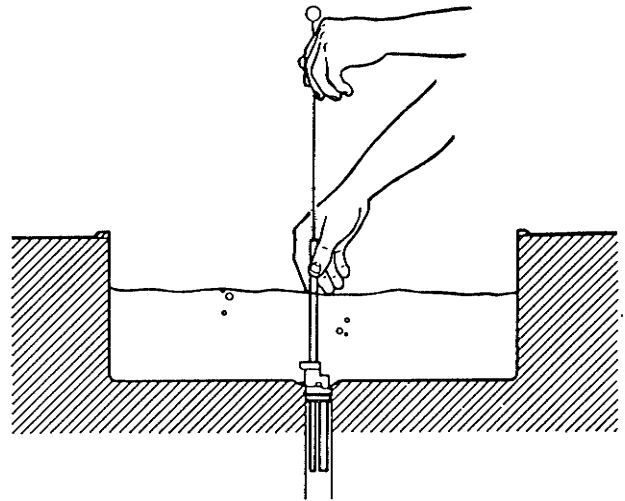

Figure 31. Sanitizing Mix Inlet Regulator (Carburetor)
3. Run a sanitized brush down mix inlet regulator (carburetor) tubes (Fig. 31).